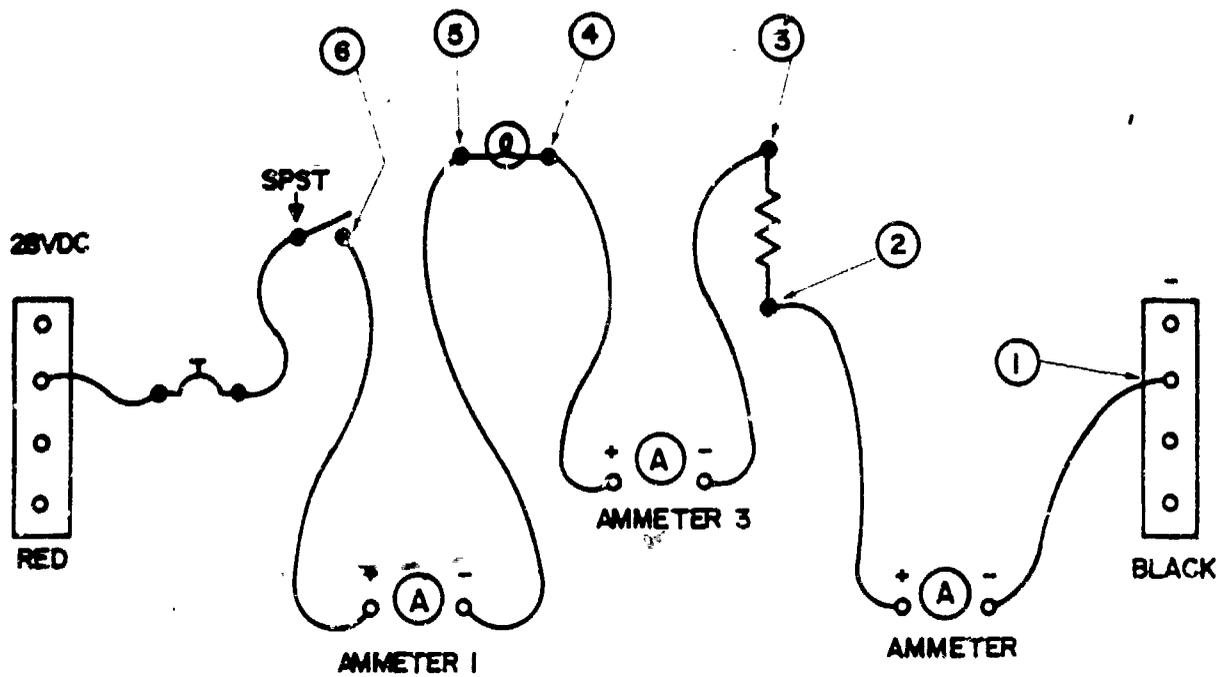

Figure 6.
- b. (5) 1-2 1 amp (Figure 6) ± 0.3 amps
3-4 1 amp (Figure 6) ± 0.3 amps
5-6 1 amp (Figure 6) ± 0.3 amps